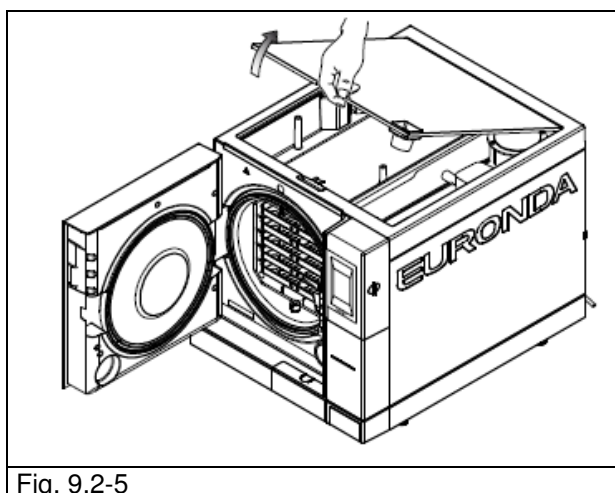
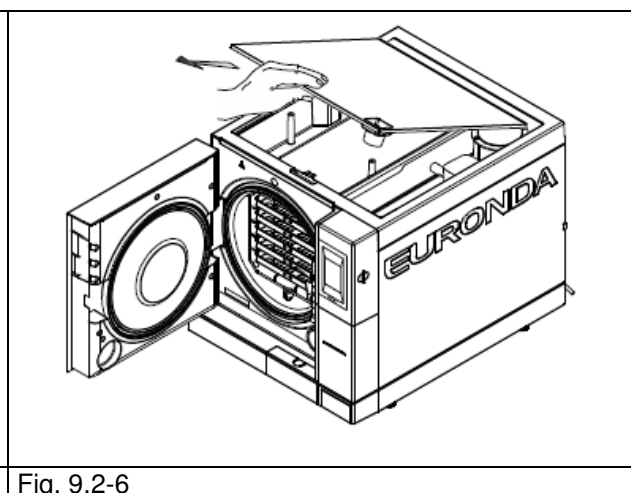

Fig. 9.2-5
Fig. 9.2-6
- lift the cover by 45° (Fig. 9.2-5) and pull it towards you (Fig. 9.2-6).